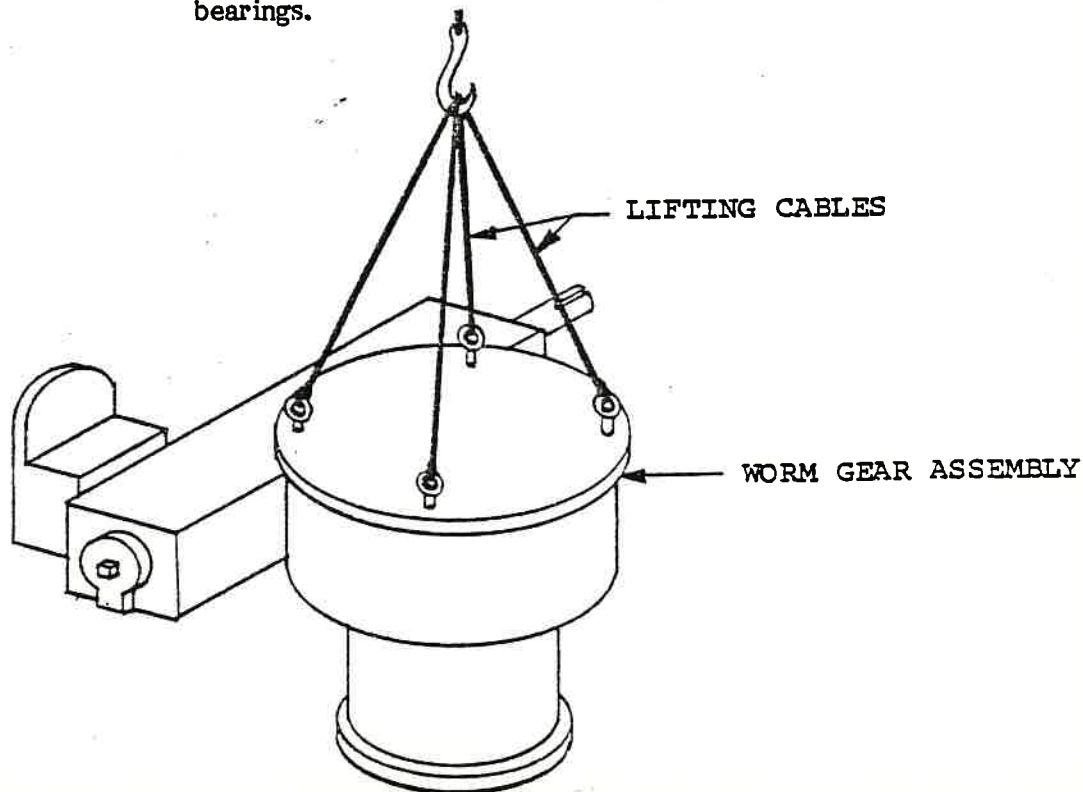

Fig. 1
4. Lift the worm gear assembly from the drive, referring to the lifting illustration. See Fig. 1. Place four (4) eye bolts symmetrically through the upper cover screw holes into the housing and lift with cables. If shims are in place between the worm housing and lower drive, match mark them so they can be returned to their original positions.